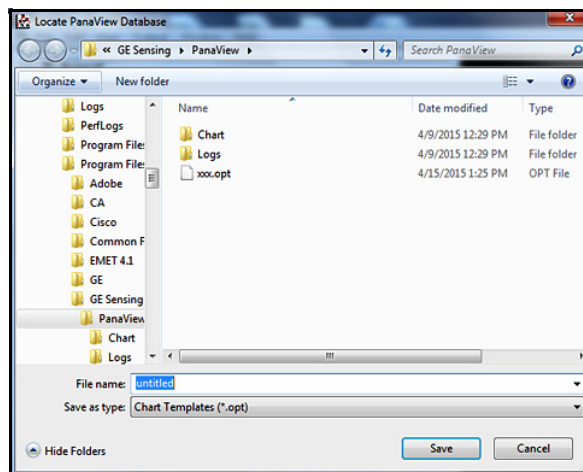

Figure 66: The Save Output Template Dialog Box
- Click the "Save Output Template" option to save the current graph properties and parameters as a template for future graphs. When the dialog box in Figure 66 below opens, enter a name for the chart (graph) template file and click the [Save] button to save the file as: